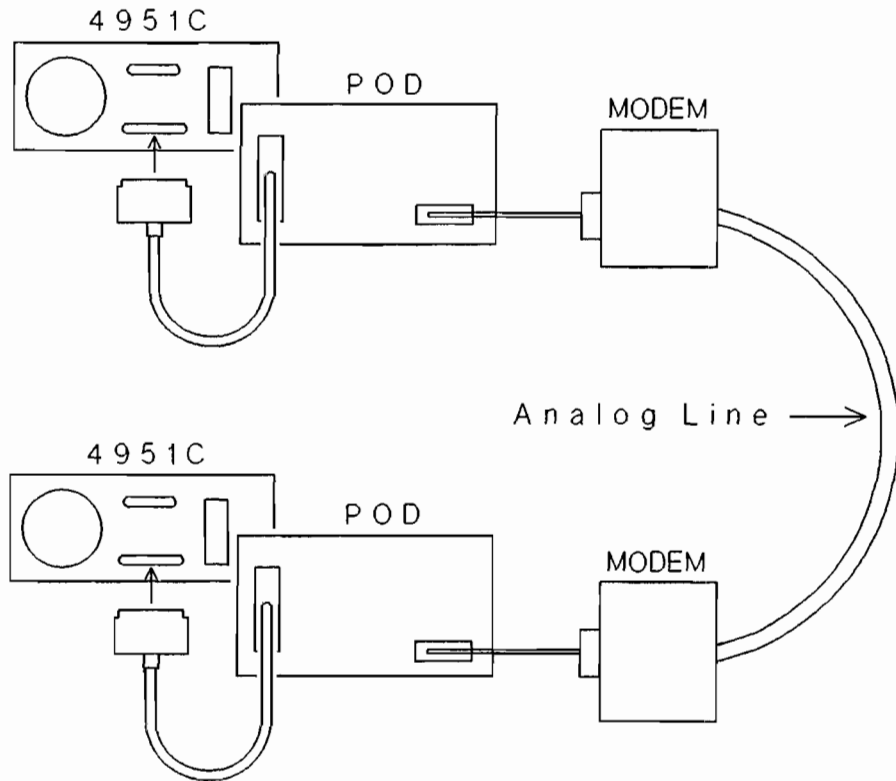

Figure 2-3. End-to-End BERT Hookup
- a. End-to-End. Substitute an HP 4951C for the DTE at both ends of the line. (Figure 2-3).